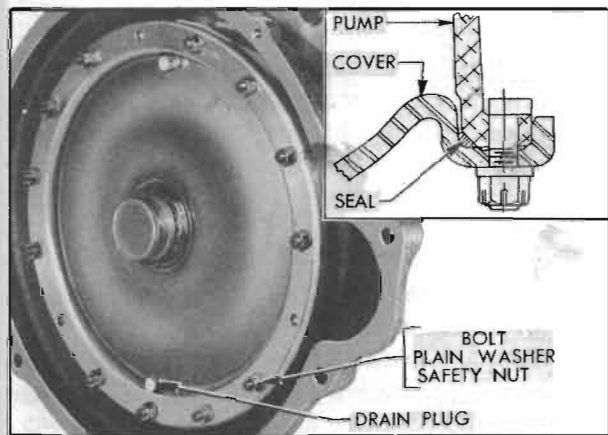

Figure 4-74—Primary Pump Cover and Seal
3. Remove cover from primary pump; it may be necessary to pry or tap lightly against edge of cover to loosen it. Check the cover seal for damage or evidence of oil leakage before removing it from cover. See figure 4-74.